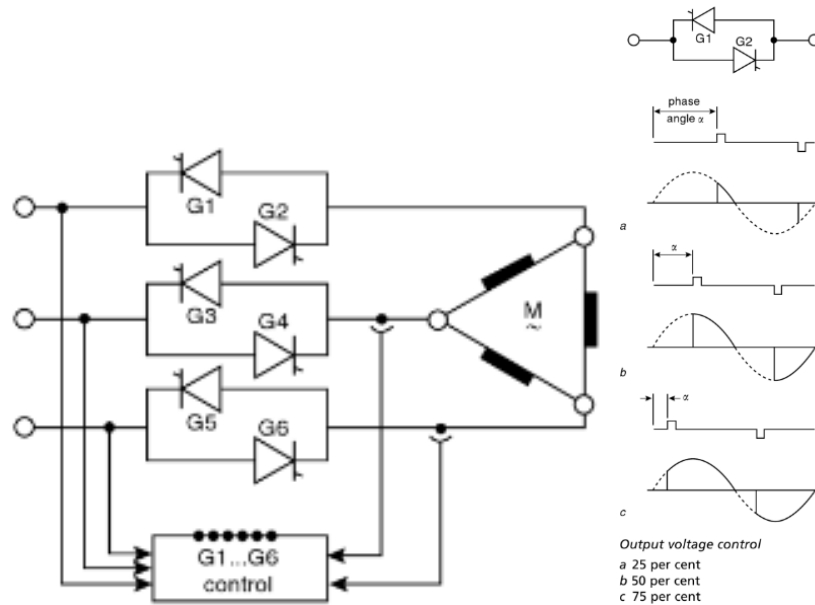
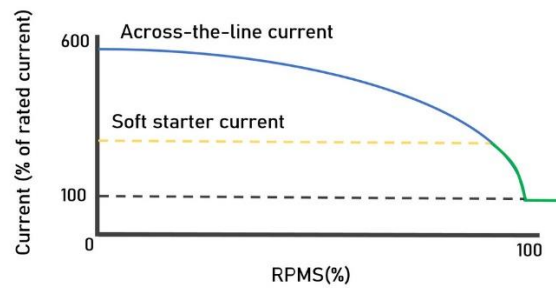

Figure 6 - Diagram of an Electronic Soft Starter [19]
Figure 7 - Comparison of DOL Starters vs Soft Starter Current [22]
- **Soft Starters** – Soft starters are comprised of solid-state electronic components such as SCRs or IGBTs to provide a smooth start, limit inrush current, and prevent damage to the motor and supply during startup. This reduces the stress on the motor hardware and prevents the supply breakers from tripping. Motors draw more current on startup due to there being no back EMF and low resistance in the motor windings when the rotor is stationary [18]. Figure 6 illustrates an example of an electronic soft starter, in which pulse width modulation signals to each thyristor to gradually reduce the gate-pulse phase angle of the thyristors to gradually increase the voltage output [19]. The thyristor pairs are in opposite directions to control the current in both directions. By reducing the gate-pulse phase angle, more of the voltage
waveform can be applied to the load as shown in figure 6, which gradually increases the voltage. [20] [21] Figure 7 illustrates how the current is maintained at a lower level than if a DOL starter was used.